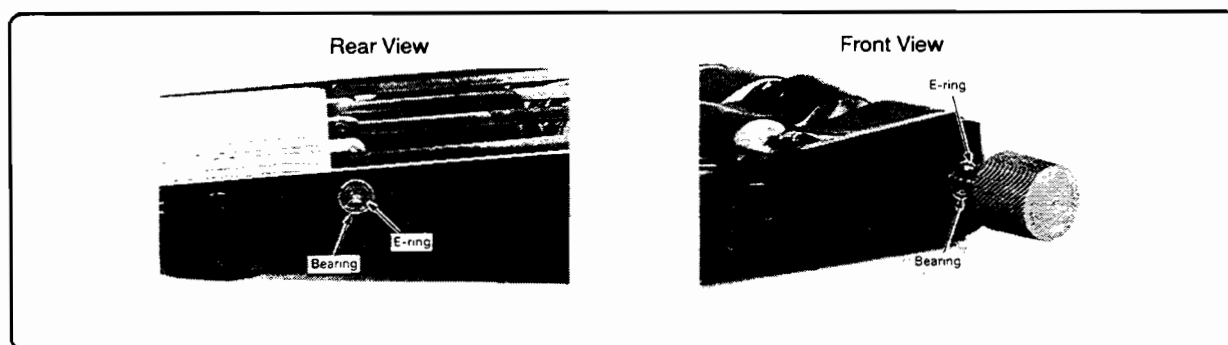

Figure 6-152. Feed Belt Removal
2. On the rear of the assembly, remove the e-ring and the bearing (Figure 6-152).
4. On the front of the assembly, remove the e-ring and the bearing from the side plate (Figure 6-152).